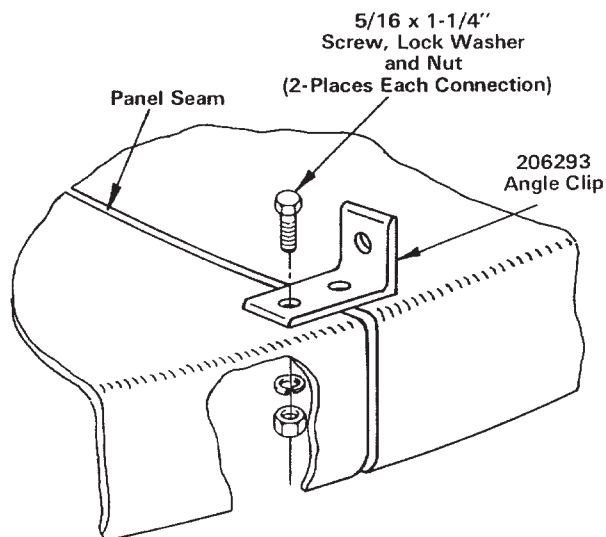

Figure 4-2
4.2 Refer to Figure 4-2. Loosely attach supplied angle clips around reflector perimeter at 2-, 4-, 8- and 10 o'clock positions using indicated bolts, lockwashers and nuts.